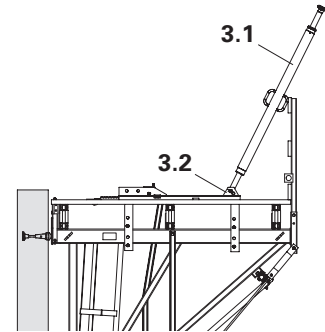

Fig. B2.06
2. Fix Adjustable Brace 164-224 (3.1) to carriage using bolts and cotter pins (3.2). Spindle out to approximately the required length and lean against guard-rail. (Fig. B2.06)